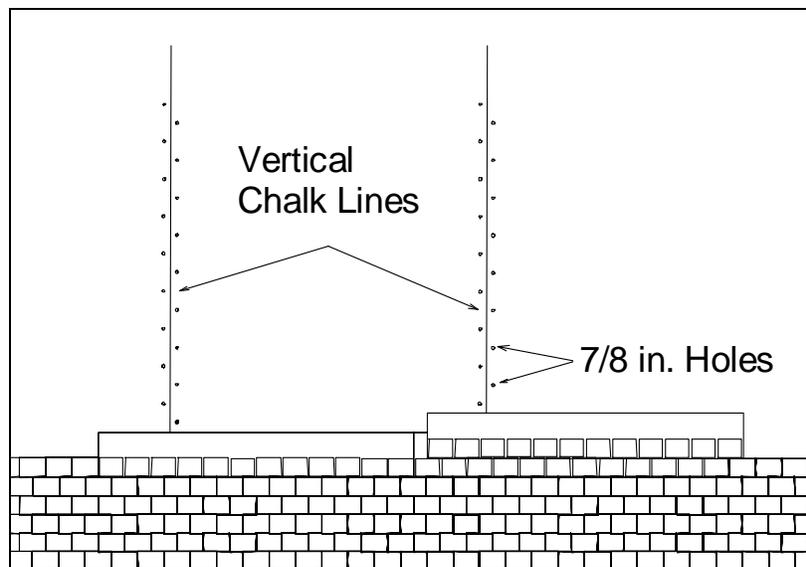

Figure 15
- 5.7 As in steps 4.2 through 4.4 install first PV shingle in second row with the rain lines staggered by half a tab on the previous row (see figure 15).